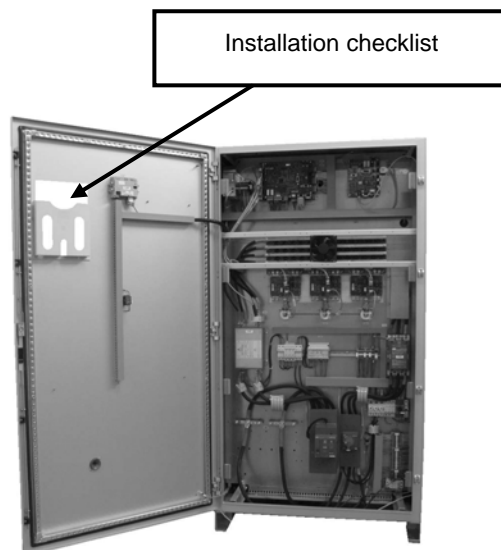

Figure 20 Location of the document holder
- 2 Check the installation following installation checklist. This checklist can be found in the document holder inside the cabinet (see figure 20). This checklist must be returned to Mastervolt after it was filled in completely and signed by an authorized person. After returning this checklist Mastervolt will contact the customer or installer of the CP inverter to schedule an appointment for commissioning of the CP inverter.